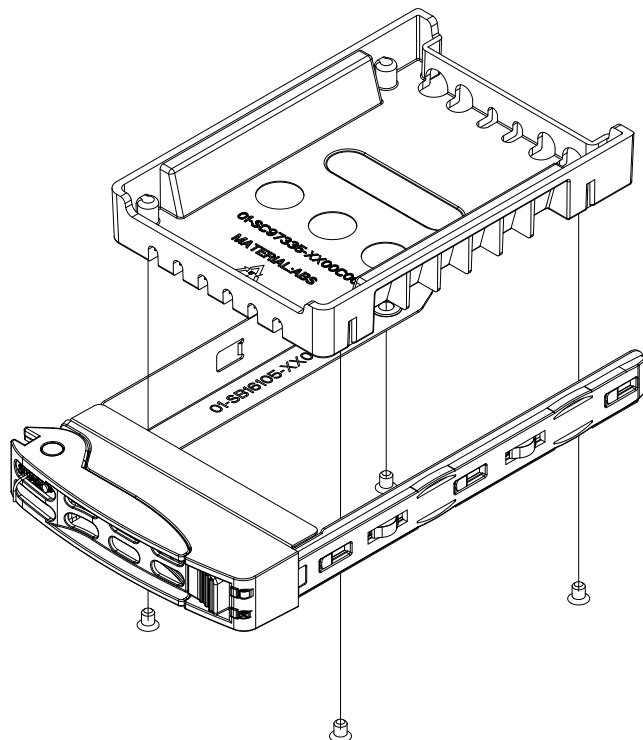

Figure 3-4. Removing the Dummy Drive from a Carrier
- **IPMI > Server Health > NVMe SSD** – Shows the temperatures of all NVMe drives, as in Figure 3-4.